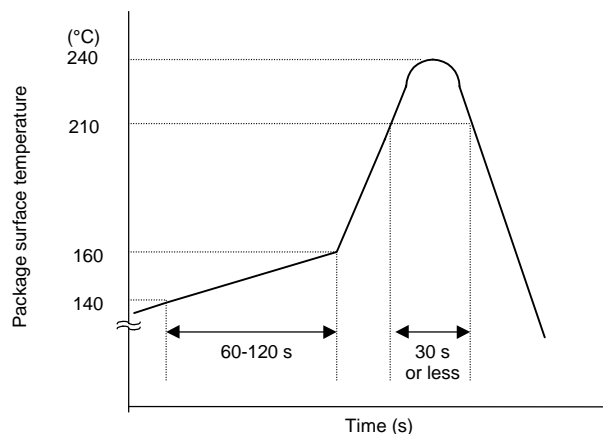
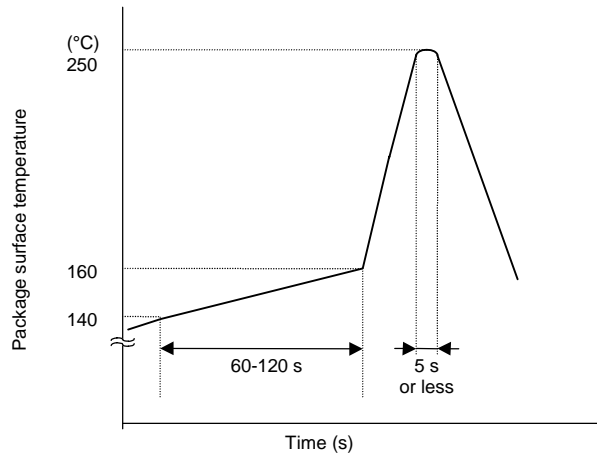

Figure 4 Sample temperature profile for infrared or hot air reflow
Figure 5 Sample temperature profile for solder flow
- Refer to Figure 4 for an example of a good temperature profile for infrared or hot air reflow.
(3) Using hot air reflow
- For an example of a recommended temperature profile, refer to Figure 4 above.
(4) Using solder flow
- Figure 5 shows an example of a recommended temperature profile for surface-mount packages using solder flow.